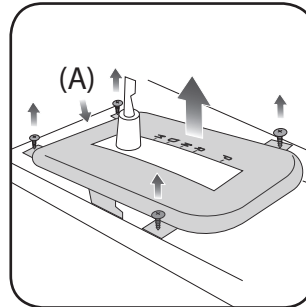

Fig. 1.5
5. Remove (4) 7mm screws securing the shifter bezel. Pull outward on the two clips below to release it. Disconnect the light from the panel (if equipped) and remove the shifter bezel. Disconnect the center console wiring harness (A), located at the back of the shifter. (Fig. 1.5)